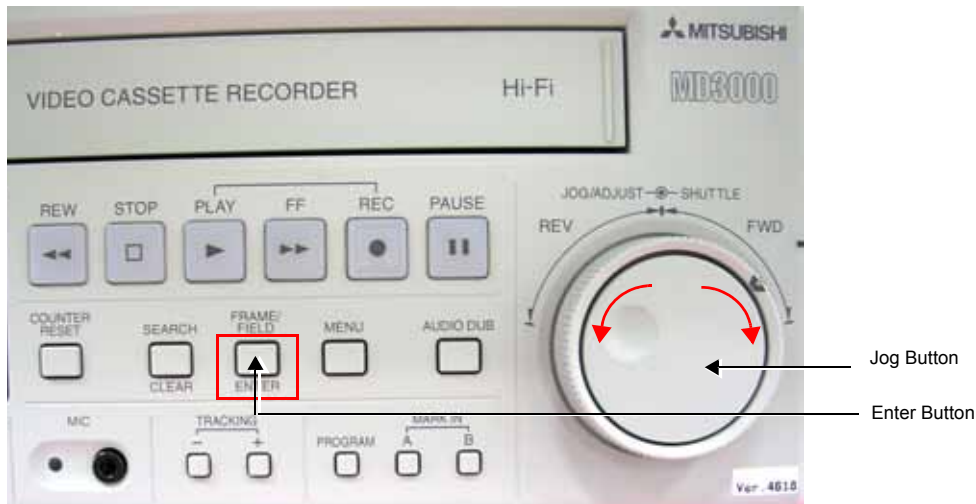

Figure 8-118 Mitsubishi VCR Front Panel
NOTE: The Mitsubishi VCR can be configured using the Menus on the front panel (Figure 8-118) as follows:
- 2.) Using the *Jog* button on the VCR front panel (Figure 8-118), select the required VCR menu language (Figure 8-119), then press the *Enter* button to continue to the next menu.